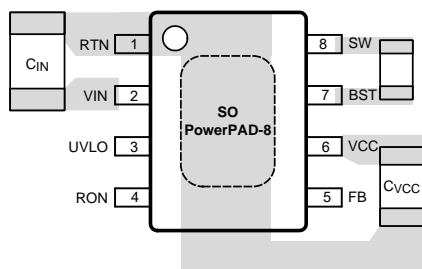

Figure 26. Placement of Bypass Capacitors
2. C_{VCC} and C_{BST} : The V_{CC} and bootstrap (BST) bypass capacitors supply switching currents to the high- and low-side gate drivers. These two capacitors must also be placed as close to the IC as possible, and the connecting trace lengths and loop area should be minimized (See Figure 26).